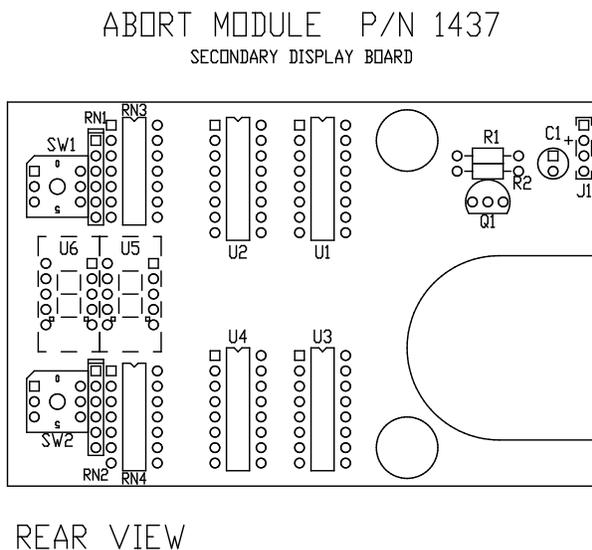

Figure 23. Abort Module P/N 1437 component view
**Secondary Display Board - optional (Figure 23):** This board is utilized in systems that include a reserve extinguishing tank connected to the panel. The secondary display board clock signal is connected to the primary board, therefore syncing off the same clock circuit. The option display board can be set at a different time starting sequence independent of the primary board. SW1 located on the secondary display board is the MOST SIGNIFICANT DIGIT and SW2 is the LEAST SIGNIFICANT DIGIT.